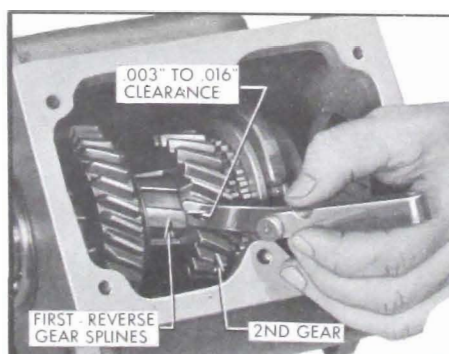

Figure 4-33—Checking End Clearance of Second Speed Gear
8. With synchronizer hub and second gear pressed forward against snap ring, there should be from $.003$ " to $.016$ " end clearance between second speed gear and front facing of first-reverse gear splines. This is a selective fit of main shaft, second speed gear, and synchronizer hub. Replace worn parts if clearance is found to be excessive. See Figure 4-33.